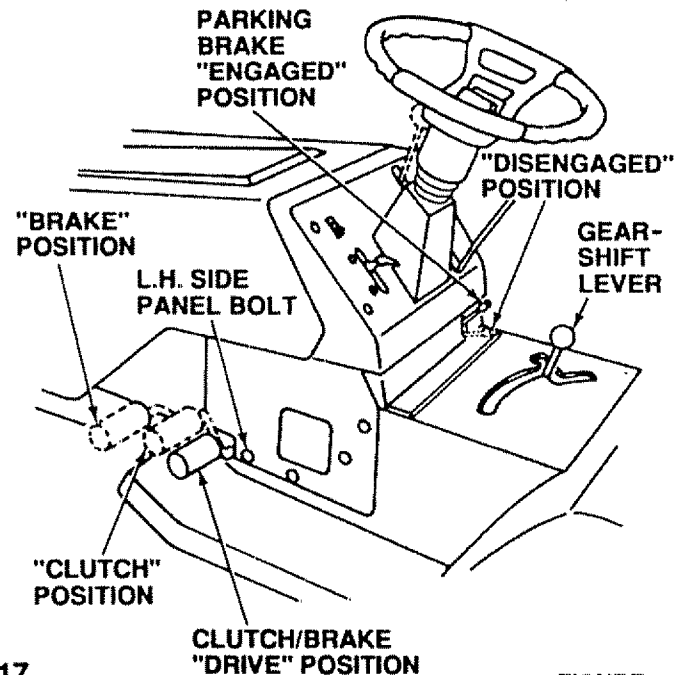

FIGURE 19
- c. Connect the other end of the **BLACK** jumper cable to the L.H. side panel bolt (Fig. 19) **NOTE: KEEP AWAY FROM GAS TANK AND BATTERY.**
1. L.H. side panel bolt (Fig. 19)